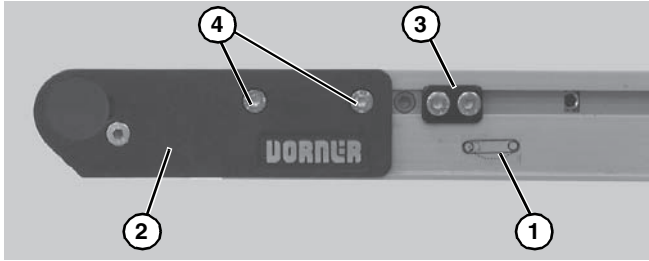

Figure 21
- On tension end of the conveyor, identified with a  label (**Figure 21, item 1**), push in head plate assembly (**Figure 21, item 2**): On both sides of conveyor, loosen and move cam tracking assemblies (**Figure 21, item 3**) (if equipped) away from head plates, then loosen fastening screws (**Figure 21, item 4**) and push head plate assembly inward.